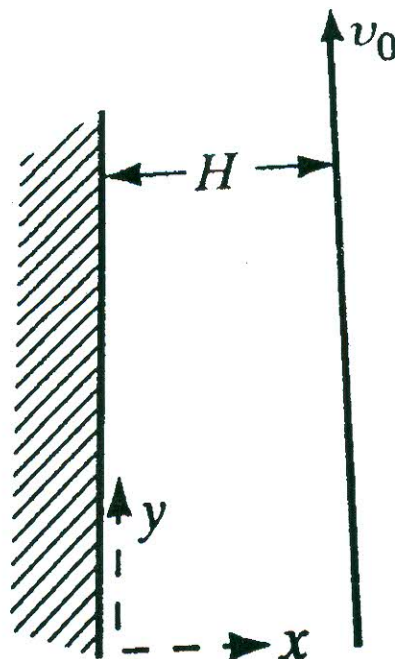

Figure 5 - Flow between vertical parallel plates
3. [a] A Newtonian fluid is confined between two parallel and vertical plates as shown in Figure 5. The surface on the left is stationary and the other is moving vertically at a constant velocity v_0 . Assuming that the flow is laminar, solve for the velocity profile.